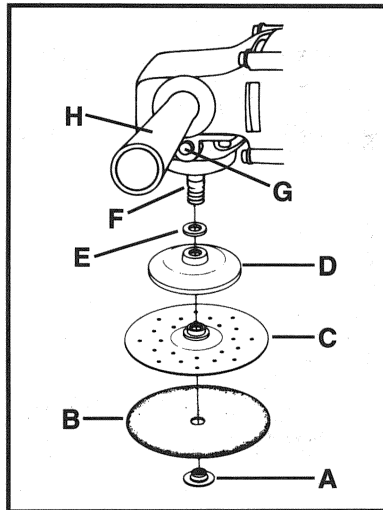

Fig. 2
An auxiliary handle (H), Fig. 2, is furnished with your tool and may be installed on either side of the front housing. This handle **SHOULD BE USED AT ALL TIMES** to maintain complete control of the machine while sanding.